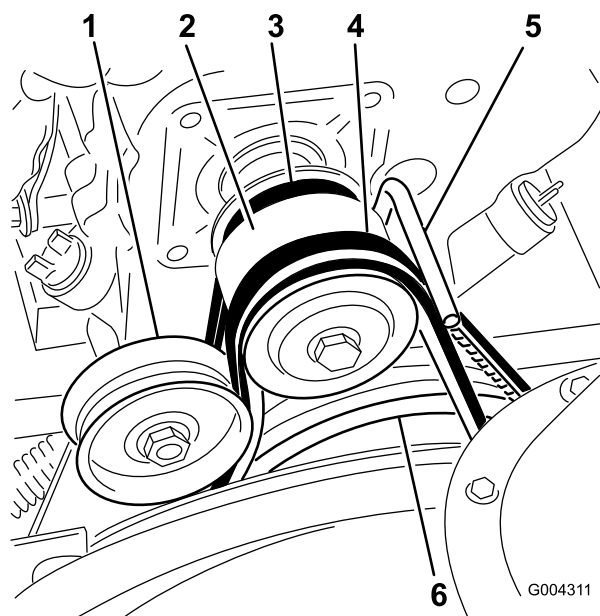

Figure 37
3. Loosen the belt guide (Figure 37).
4. Remove the auger/impeller drive belt from the engine pulley and the large auger/impeller pulley (Figure 37).
9. Remove the traction drive belt from the engine pulley and the large traction pulley (Figure 37).
11. Loop the belt over the engine pulley, ensuring that the belt is on the inside of the belt guide (Figure 37).
16. Install the auger/impeller drive belt around the large auger/impeller pulley and engine pulley, ensuring that the belt is on the inside of the idler pulley and the belt guide (Figure 37).
2. Loosen the belt guide (Figure 37).
3. Remove the auger/impeller drive belt from the engine pulley and the large auger/impeller pulley (Figure 37).
4. Install a new belt around the large auger/impeller pulley (Figure 37).
5. Loop the belt over the engine pulley, ensuring that the belt is on the inside of the idler pulley and the belt guide (Figure 37).